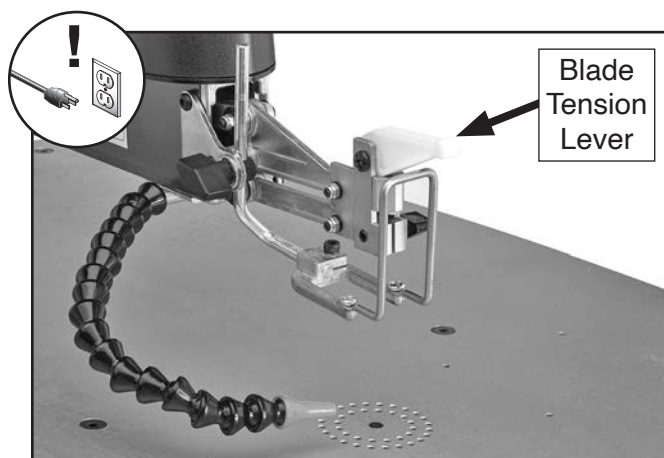

Figure 14. Blade tension lever released.
2. Move blade tension lever forward to release tension (see **Figure 14**).